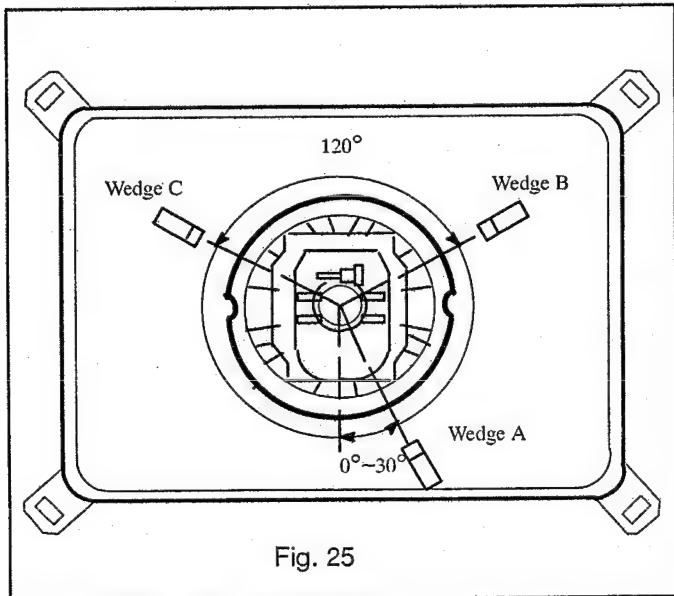

Fig. 25
7. Loosen the clamp screw for the deflection yoke A in Fig. 25 and move the deflection yoke as close to the purity magnet as possible.
11. Tighten the clamp screw A in Fig. 25.
7. Fix the deflection yoke by re-inserting the DY wedges. Refer to Fig. 25.
1. Wedge A shown in Fig. 25 should be fixed within a range of 0° - 30° to the right of the vertical line as shown.